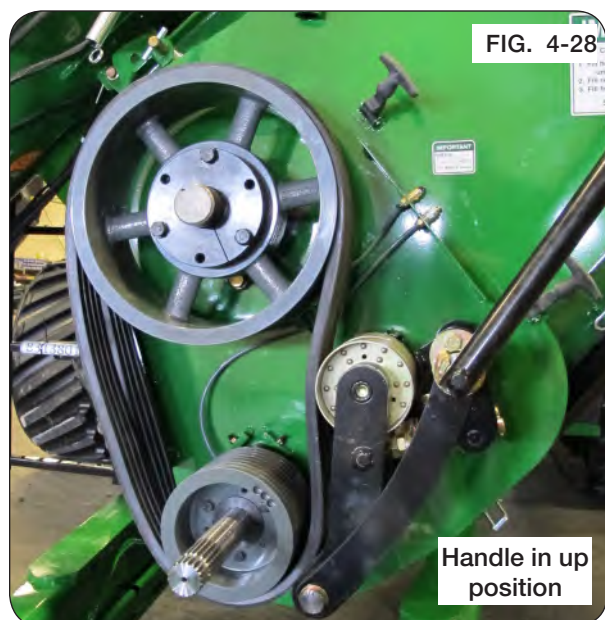

FIG. 4-28
6. Check the lower belt pulley to ensure belt is aligned in their grooves. Using the belt tensioner handle, engage the roller/idler linkage against the belt and over-center stop. The compressed spring should now be approximately $1 \frac{3}{4}$ " between the washers and generating a force of approximately 480 lbs. against the belt. (Fig. 4-28)
7. Release and tighten belt multiple times to confirm positions and final adjustments. See Fig. 4-28 and Fig. 4-29.